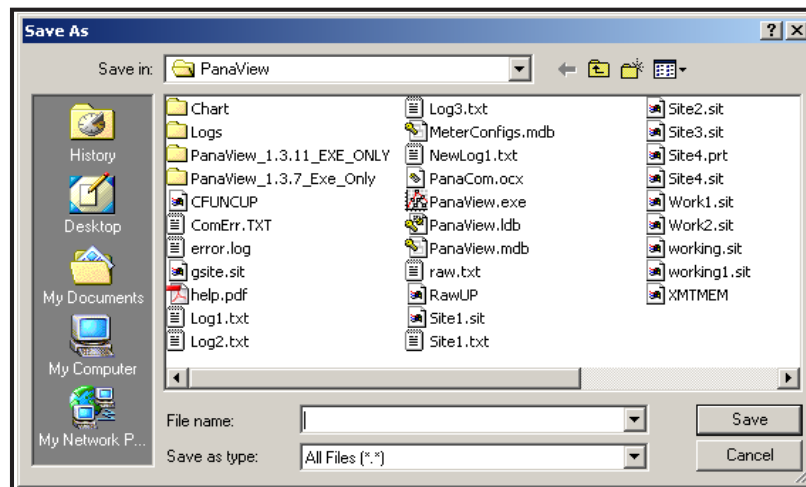

Figure 13: Saving Signal Array Data to File
- If you double-click on *To File*, another window opens similar to Figure 13. Enter a file name and click [Save]. PanaView stores the array data in a Windows file, and closes the *Calibration/Test* window.
- If you double-click on *To File*, the *Save As* window (similar to Figure 13 on page 52) opens. Enter a file name and click [Save]. PanaView stores the array data in a Windows file, and closes the *Calibration/Test* window.